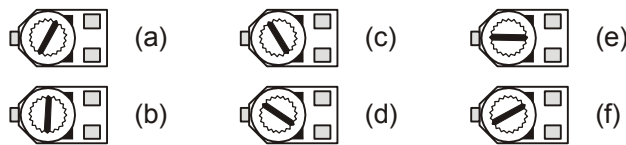

Figure 5-6
- ✓ Turn the potentiometer clockwise until it reaches its mechanical limit shown in Figure 5-6.
- ✓ Gradually rotate the potentiometer counterclockwise to the positions shown in Figure 5-6 (b), (c), (d), (e), and (f) noting the how brightly the LED glows at each position.